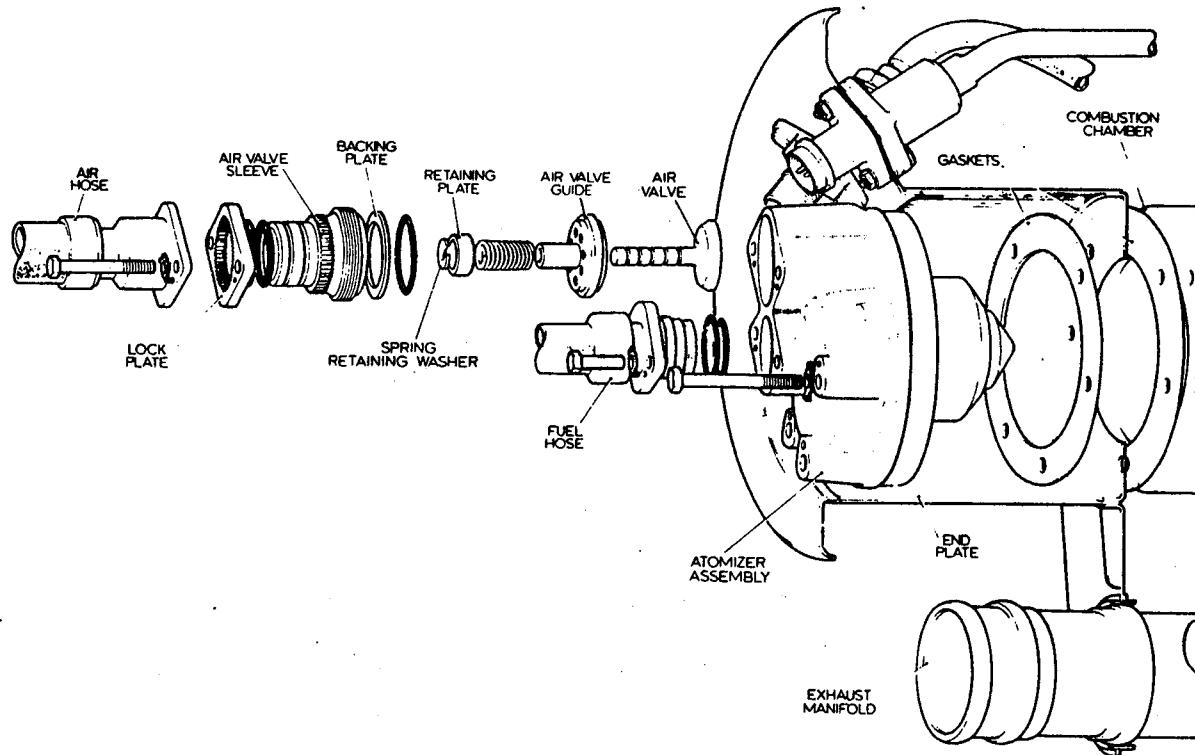

Fig.2 ► ◀ Atomizer, hoses and air valve.
► Clean and examine the atomizer air valve (fig.2)